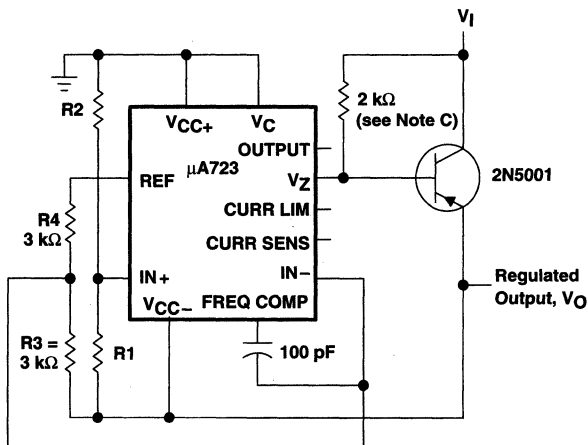

Figure 3. Negative-Voltage Regulator
6. For Figures 3, 8, and 10, the device requires a minimum of 9 V between V_{CC+} and V_{CC-} when V_O is equal to or more positive than -9 V.